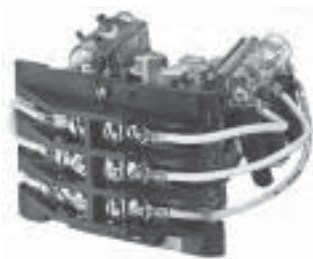

Figure 5
1. Replace new mercury switch into clips making certain that a space of 9.5 mm (3/8") exists from edge of clip to point where lead wires attach to glass tube. Lead wires should project downward at 90° angle from horizontal plane. (See Fig. 5).